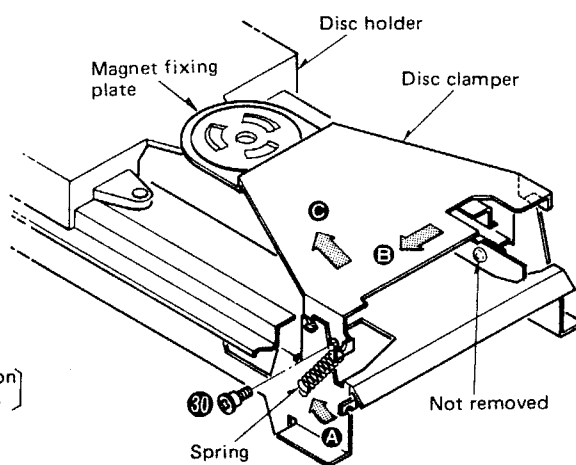

Fig. 9
3. Remove the disc clamber setscrew [Fig. 9: 30]
4. Remove the spring in the direction of arrow A. [Fig. 9]